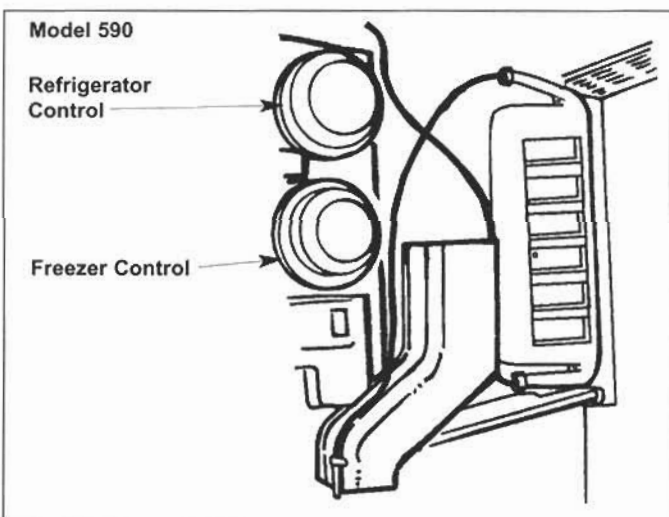

Figure 2-62. Water Tank
4. Remove the control dials, then remove the control (Figure 2-62 & 2-63) by unscrewing the mounting screws.
4. Remove the control dials (Figure 2-62 & 2-63), then remove the control by unscrewing the mounting screws.